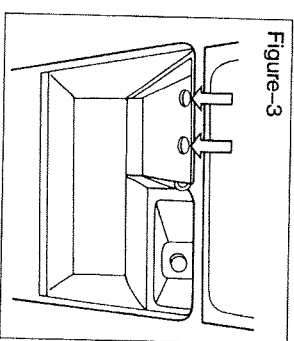

Figure-3
- Remove the ashtray. Disassemble ashtray assembly by removing the two screws indicated by arrows in Figure-3.